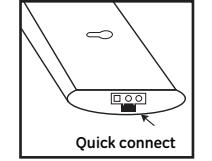

Figure 5
7. Your line cord has a molded plug on one end and a link connector at the other end. The link connector plugs into your LED bar. The second cord provided is a linking cord with link connectors on both ends. This is used to connect your LED bar to the next bar in your chain. Link adjacent bars only. See **Figure 5** below to see how the 2-pin and 3-pin plugs are intended to be used.
2. Once installed, attach the linking cord between the last light bar (previously installed) and the new one. See **Figure 5** to see how the 2-pin and 3-pin plugs are intended to be used.